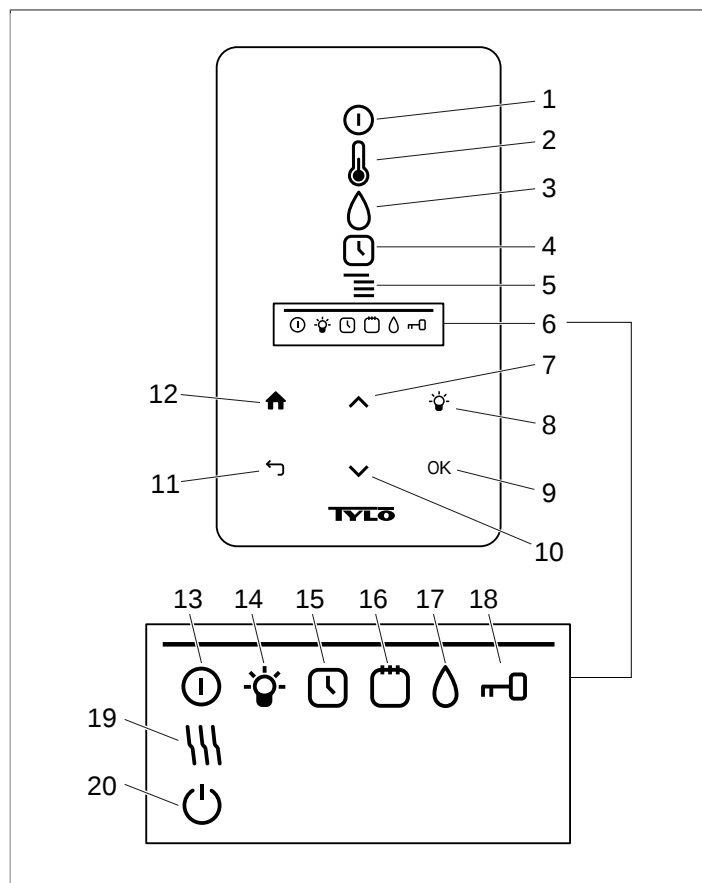
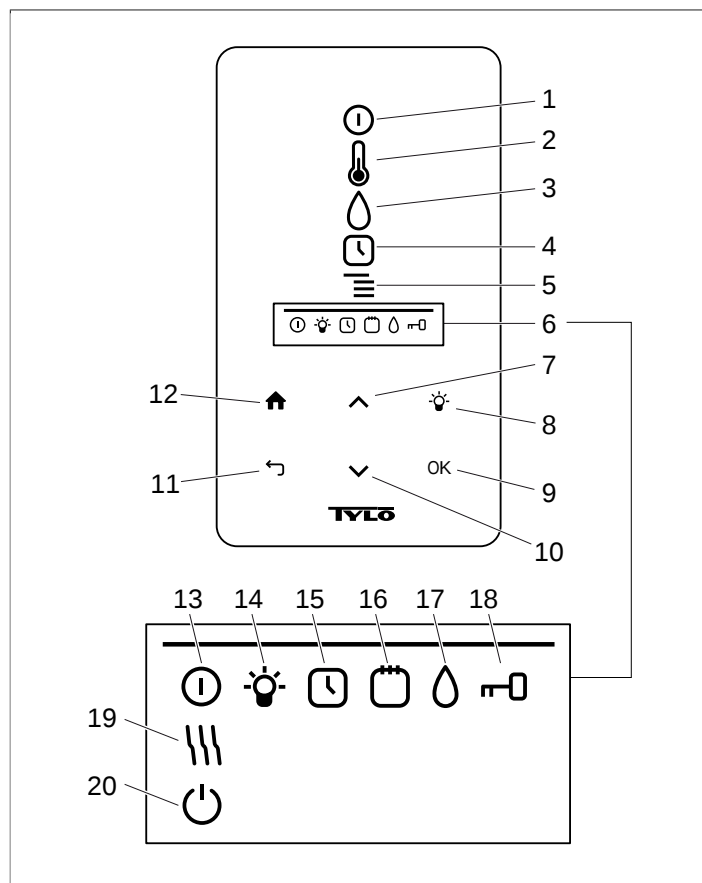

Figure 4: Main menu
Figure 6: Main menu
Use **UP** (see **Figure 4** **Figure 6**, Page 3 pos 6) and **DOWN** (pos 9) to scroll through the menus.
Use **UP** (see **Figure 4** **Figure 6**, Page 3 pos 6) and **DOWN**(pos 9) to scroll through the menus.
3. Press **OK**. **ON/OFF STATUS** will light up in the **STATUS BAR** (see **Figure 4****Figure 6**, Page 3) to show that the sauna heater is on.
Water level in the reservoir is indicated by **HUMIDITY STATUS** (see) in the **STATUS BAR** (see **Figure 4****Figure 6**, Page 3, pos 6). An illuminated, full drop symbol shows the reservoir is full. An illuminated half-full symbol shows the reservoir is half full and a flashing empty symbol shows the reservoir is empty. When starting, an empty reservoir will also be indicated by a pulsating audio signal.